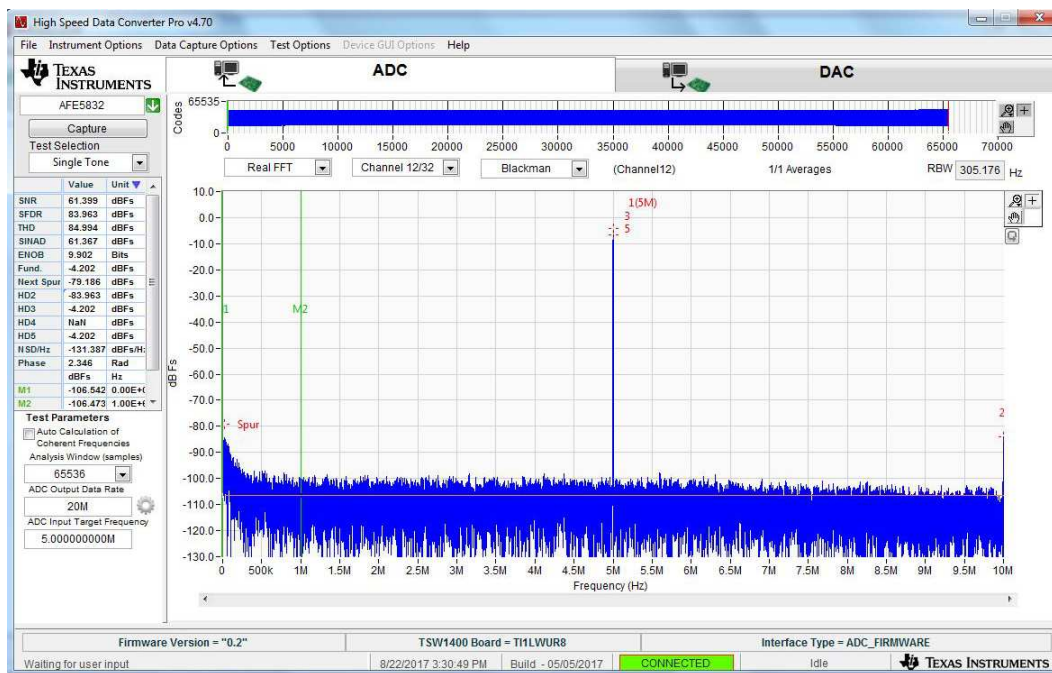

Figure 14. Analog Input Capture for LVDS
- Return to HSDC Pro, and press the *Capture* button in the upper left-hand corner (as shown in Figure 14). A capture similar to that shown in Figure 14 appears for a successful capture. The quality of the output spectrum depends heavily on the coherency and the purity of the input signal and clock.